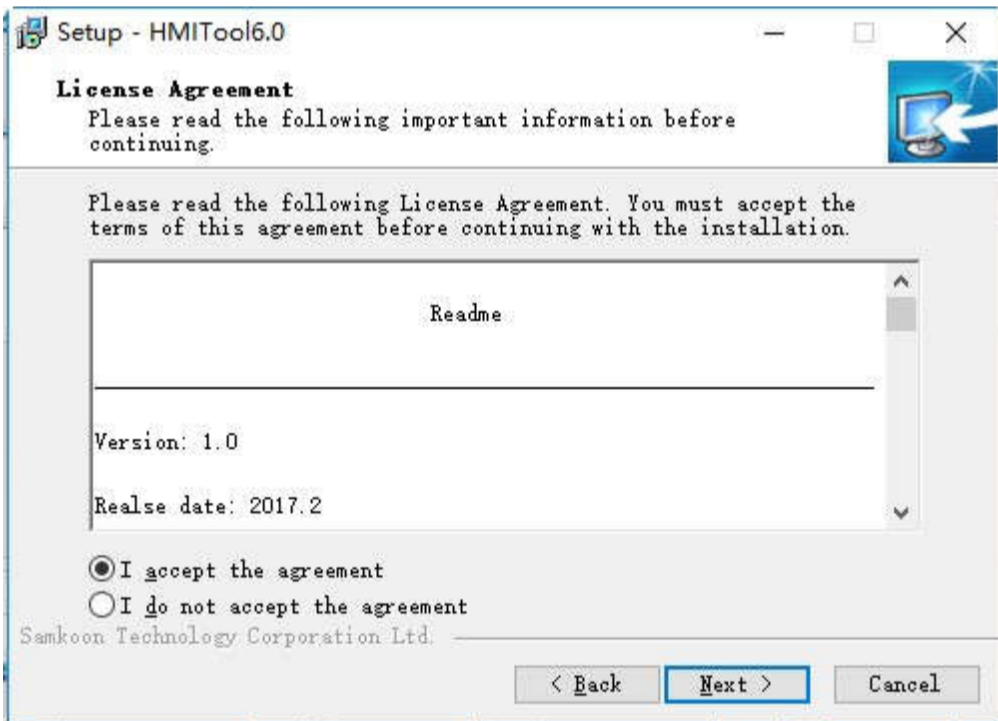

Figure 2-3 License Agreement dialog box
- In the License Agreement dialog box, please choose whether to accept the terms of the software, and then click Next, as shown in Figure 2-3: